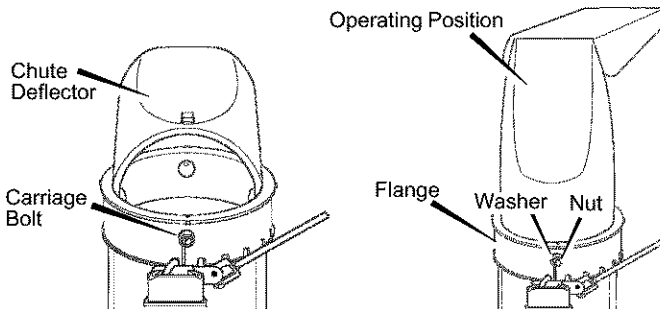

Figure 11
1. Remove the **carriage bolt**. See Figure 11.